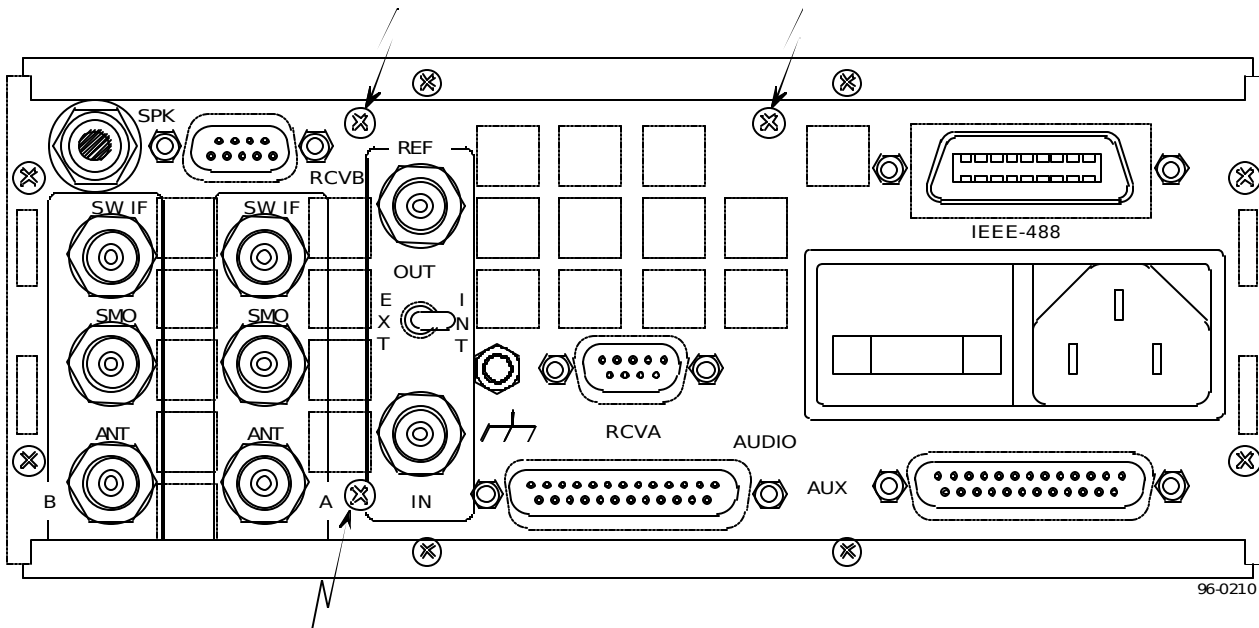

Figure K-9. Rear Panel Reference Generator (A9) Main Chassis Screws
1. Remove the three rear panel main chassis screws that hold the Reference Generator Assembly. See **Figure K-9**.